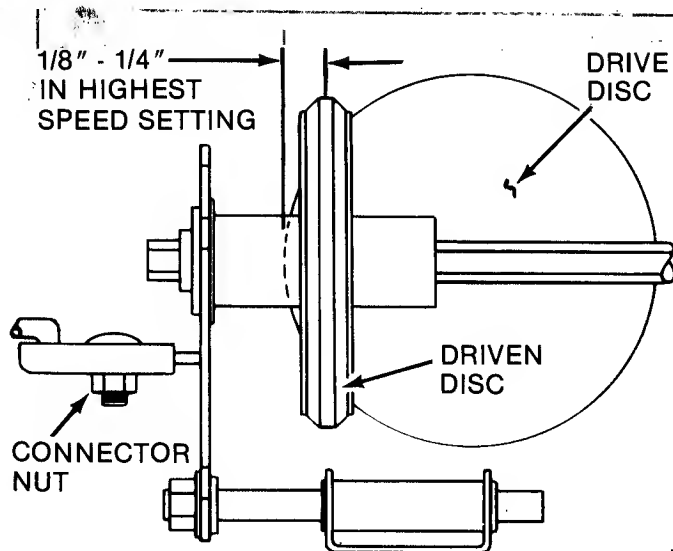

FIGURE 8 — DRIVEN DISC ADJUSTMENT
**DRIVEN DISC ADJUSTMENT:** With the engine stopped and the speed lever shifted into highest speed setting, the driven disc should be 1/8" to 1/4" from the edge of the drive disc as illustrated in Figure 8. Readjust with engine stopped as follows: Shift the speed selector into the highest speed setting, loosen the connector hex nut and slide the driven disc assembly inward or outward until 1/8" to 1/4" from the edge of the drive disc. Retighten connector nut to lock as new setting.